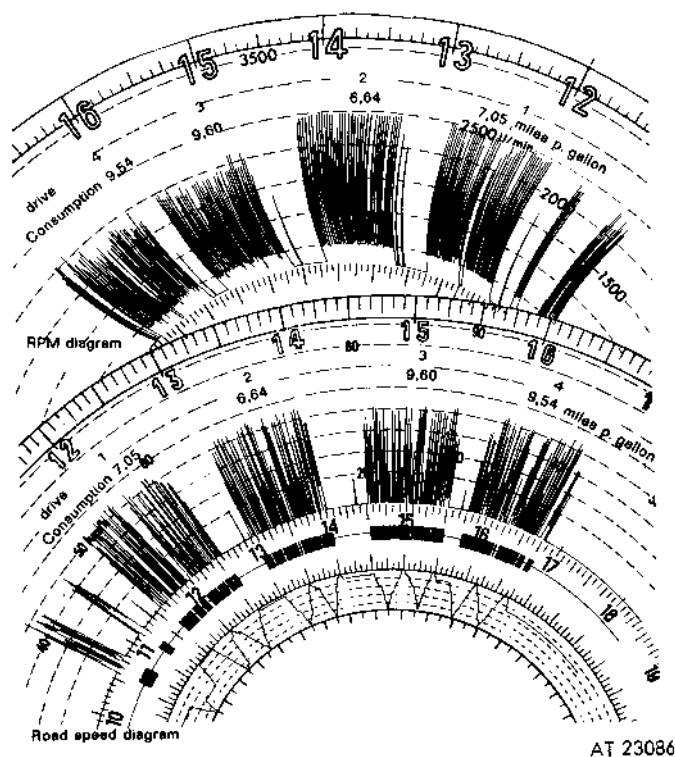

Figure 2-284. Speed and rpm diagram.
(3) *Manner of driving expressed in speed and rpm diagram.* For vehicles used over short distances, determination of speed of travel on its own is not sufficient. Because of the speed limits and because of traffic control, there are certain conditions with which an operator must comply. But the operator still has a considerable influence on the economic running of his vehicle even though the speed recordings may appear to show only slight differences. Figure 2-284 shows the importance of these remarks. These charts show in each case two trips on a normal scheduled route with economical driving and two trips with uneconomical driving. To the inexperienced eye there is hardly any difference between the speed recordings. On the other hand the rpm recordings show the characteristic features of both types of driving. While in one case rpm has been used only within an economic range, in the other case the engine has run at maximum rpm in the individual gears. There is a difference of 40 percent in fuel consumption compared to an increase in journey time of only 2 percent.